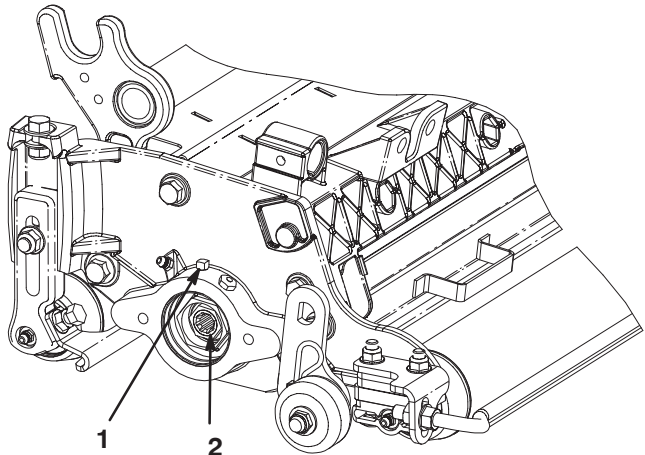

Figure 10
- A. Loosen external set screw securing bearing adjusting nut to bearing housing located on the left side of the cutting unit (Fig. 10).